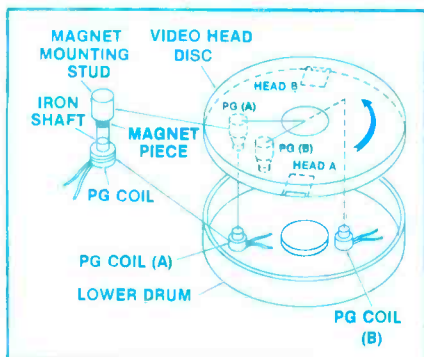

Figure 3. In the head-drum assembly, two rotating permanent magnets and two non-rotating coils produce pulse-generator (PG) pulses for Beta-type VCR servos.
Feedback signal for the servo comes from the pulse-generator (PG) coils located on the video-head disc (Figure 3). The head-drum assembly is a stacked array with a non-rotating upper drum, a rotating video-head disc containing two video heads (spaced 180° apart at the periphery) and two PG magnets, and the non-rotating lower drum. Notice that the PG magnets are not spaced 180°, and they are not the same distance from the center. Their locations vs. spacing of the PG coils in the lower head drum make possible the positive identification of both